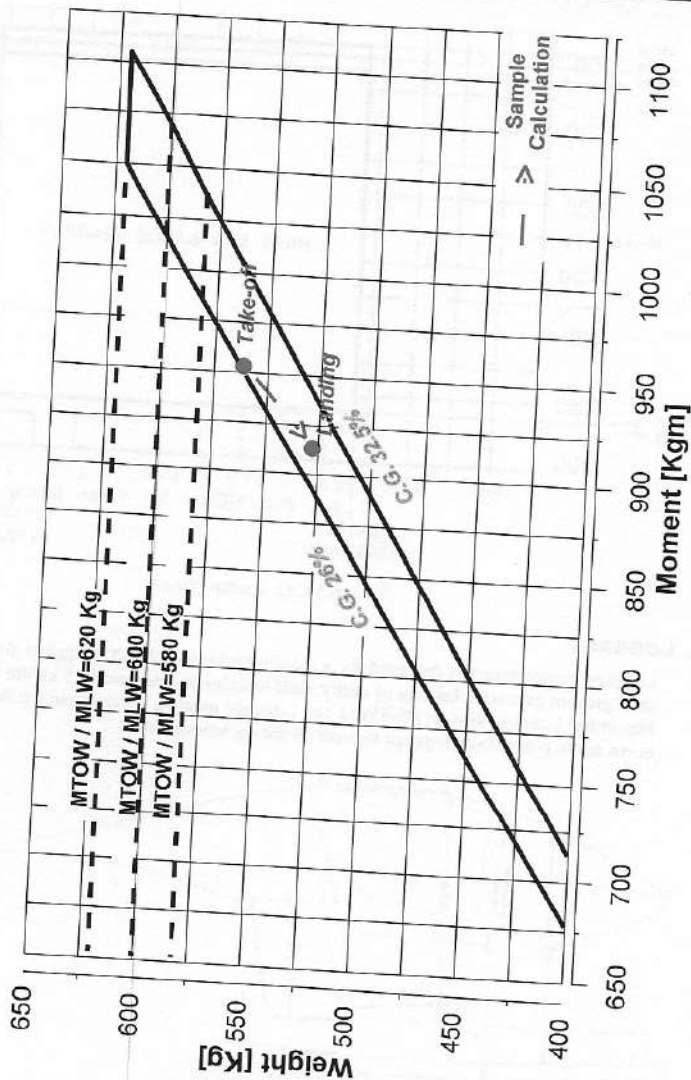

Fig.6.4 WEIGHT-MOMENT ENVELOPE
In this subsection, the procedure to be used for the determination of aircraft weight and balance in flight is described. The weight and moment obtained must fall within the approved Weight-Moment Envelope (Figure 6-4). The procedure explained requires the use of:
- Weight-Moment Envelope (Figure 6-4)
Locate on the Weight-Moment Envelope (Figure 6-4) the points (weights and moment) corresponding to the take-off and landing conditions. If the points fall within the envelope, the loading condition meets the weight and balance requirements.